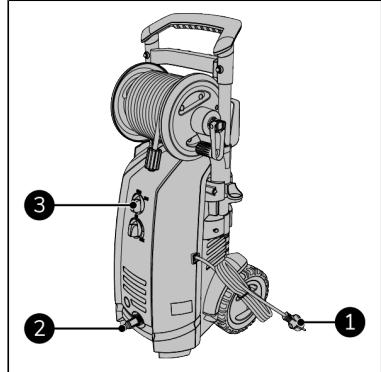

Figure 30.
2. Make sure the ON(I)/OFF(0) switch (Figure 30, pos. 3) is in the OFF(0) position.
3. Screw the water inlet (including filter) onto the thread on the front of the machine (Figure 30, pos. 2).
4. Place the power plug (Figure 30, pos. 1) into a earthed socket that is easily accessible.
5. Connect the water supply to the device (Figure 30, pos. 2).